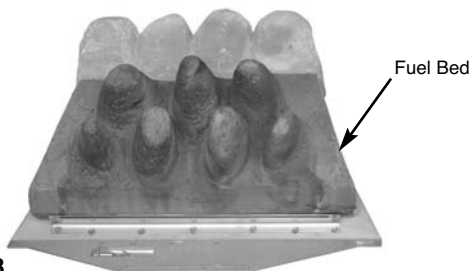

Fig. 58
2. Place the main fuel bed on to the middle section of the metal burner tray. It is important that the front edge of the fuel bed is located behind the burner strip (Fig. 58).